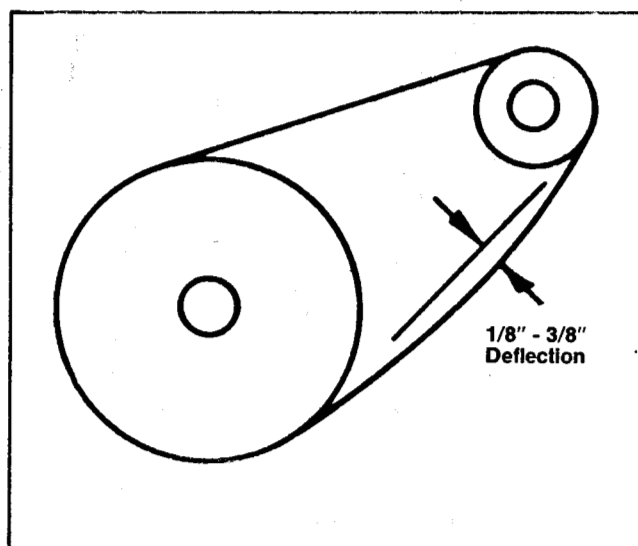

Figure 7
1. Check deflection of the chain by lifting up on the chain with moderate pressure at mid span. There should be 1/8-3/8" deflection. If deflection is not as specified an adjustment is required. See Figure 7.